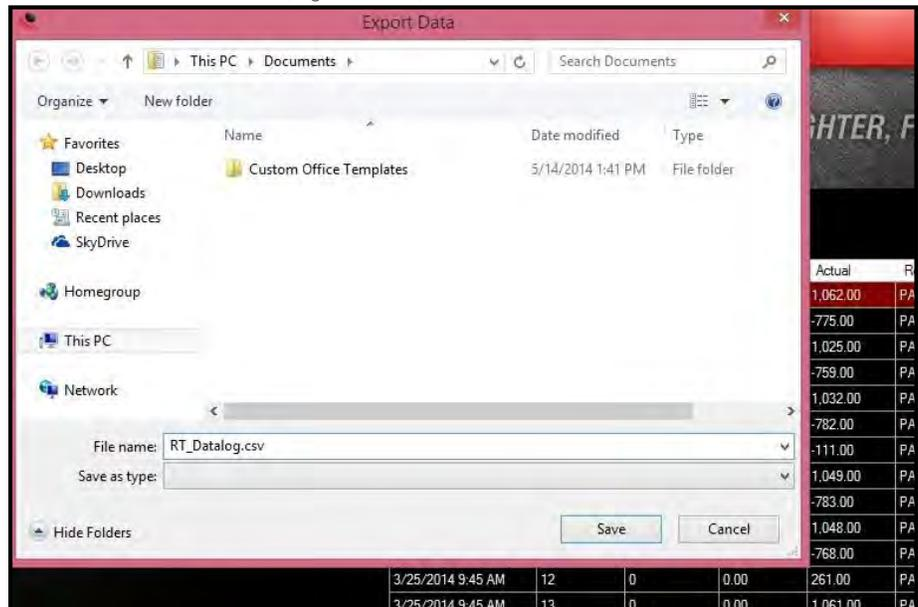

Figure 5.7-3: Saving the Data Log
3. If **"Yes"** or **"No"** was selected, a window will be displayed asking for a location to save the file (Figure 5.7-3).